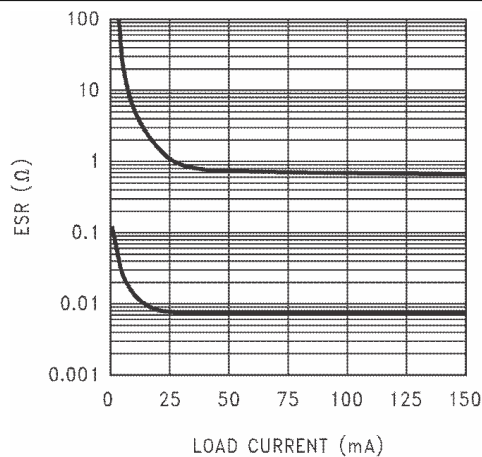

Figure 6-18. 2.2- μF Stable ESR Range for Output Voltage $\leq 2.3 V$
- ESR range: see Figure 6-18 through Figure 6-20